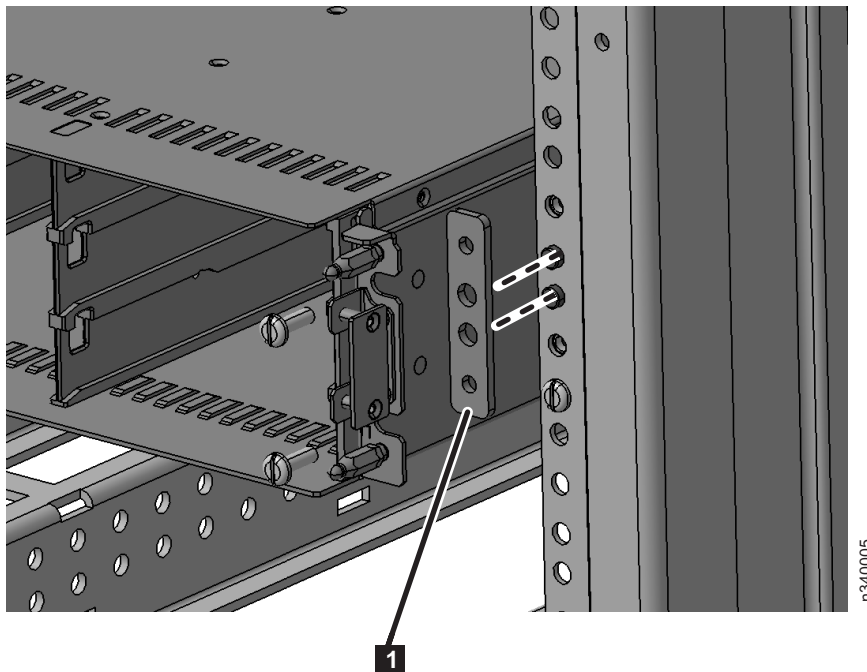

Figure 5. Mounting the EXN3500 in the rack
3. From the front of the rack, set the EXN3500 onto the rails and slide it into the rack until the front mounting flange is a few inches from the rack frame. As shown in Figure 5, position the spacer plates **1** over the locating pins (holes H3 and H4) on the front left and right rails. Slowly slide the chassis into the rack until the front mounting flange of the EXN3500 is flush against the spacer plates.
4. Using Figure 5 on page 3 for reference, attach the EXN3500 to the front of the rack using four silver pan head screws (two for each rail) in the H2 and H5 holes. Thread the screws through the front flange, the spacer plate, and the rack frame rail into the threaded rail nuts. Tighten the screws using a screwdriver.